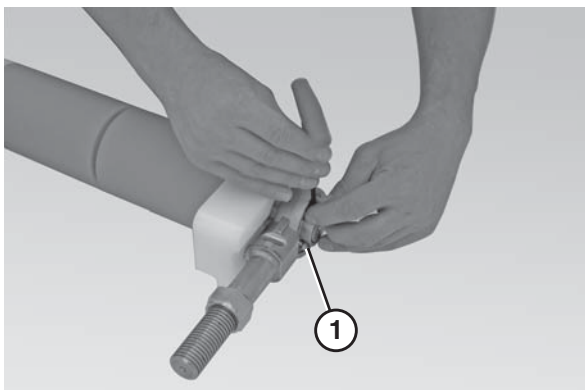

Figure 61
4. Use a 4 mm hex wrench (Figure 61, item 1) to loosen the bearing shaft assembly fasteners (Figure 61, item 2).